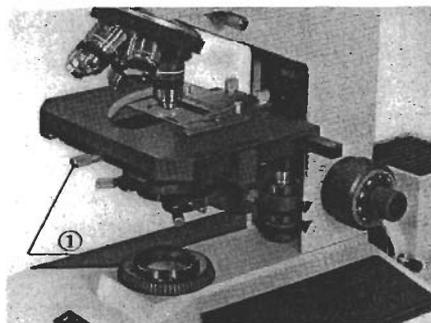

Fig. 9
- 3) Bring the portion of the specimen for observation into the light path by means of the low drive control knobs. (Fig. 9)
- ★ Tighten the stage clamping screw ① in the microscope front.
- To rotate the stage loosen the stage clamping screw ① and holding this screw, rotate the stage into the desired direction. (Fig. 9)